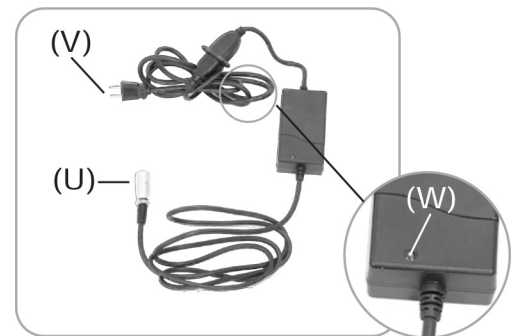

Figure 30
- Output Voltage: 100V~240V (Figure 30)
1. Charger output cable, 3pins Ⓢ connector (U)
2. AC power cord (V)